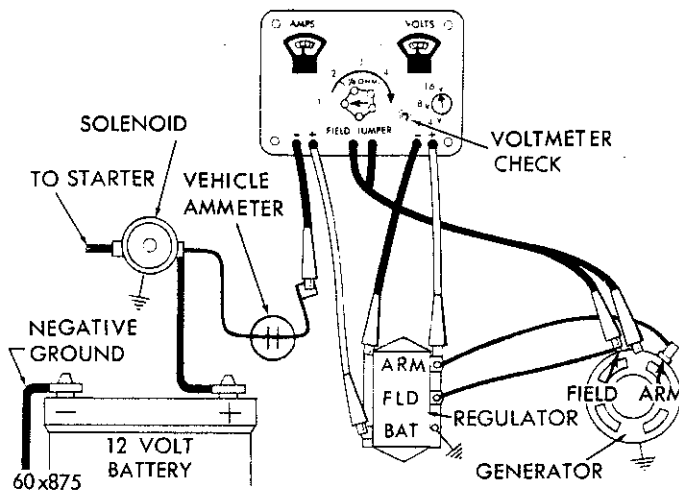

Fig. 10—Generator Output Test
(1) Disconnect the battery wire from the battery (B) terminal of the regulator and connect the negative lead of the test ammeter to the battery wire that was disconnected from the regulator and the ammeter positive lead to the regulator "B" terminal (Fig. 10).
(1) Turn the control knob of the tester to the No. 2 position. Tester should be connected, as shown in Figure 10.
(2) Decrease engine speed until the voltmeter reading is below battery voltage, indicating that the output relay points are open.
(3) Very slowly increase the engine speed while observing both the voltmeter and ammeter. **Note highest voltage reading just before ammeter pointer begins to move. This is the closing voltage of the cutout relay.**